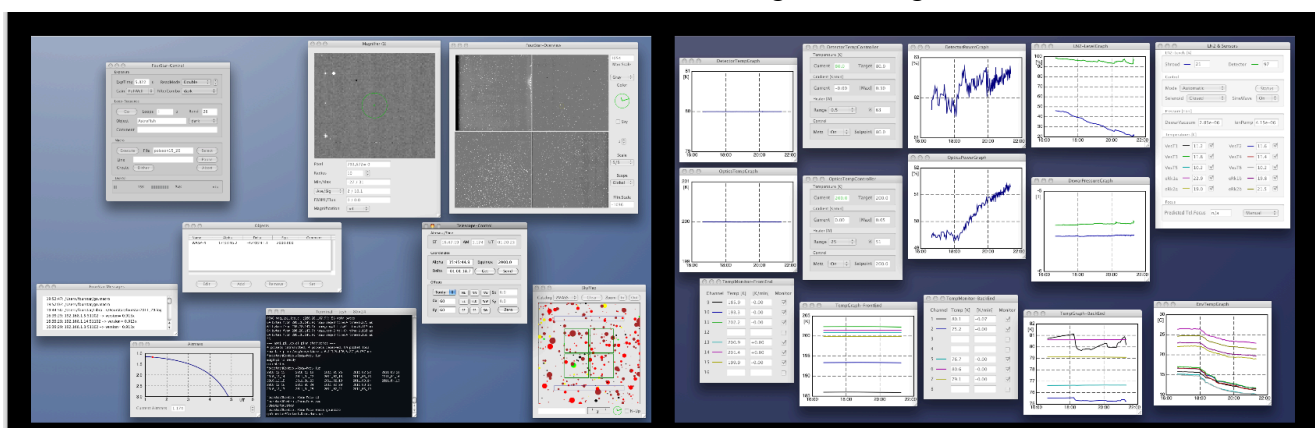

Figure 4.6 The Spaces environment showing the Fourstar control windows and graphs divided into two workspaces.
- Under the Telescope menu, click on Show SkyMap, Show Airmass and Show Object List to show those windows. You should now see something like in Figure 4.6.